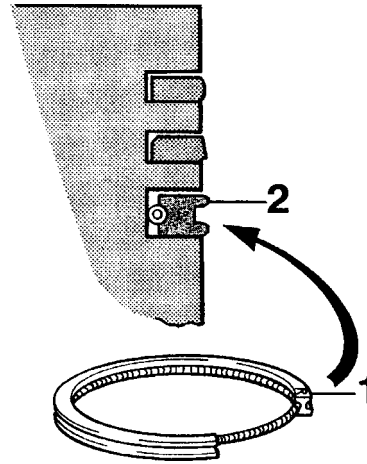

Fig. 51. Placement of piston rings
**Note:** The rings should be turned as per Fig. 51.